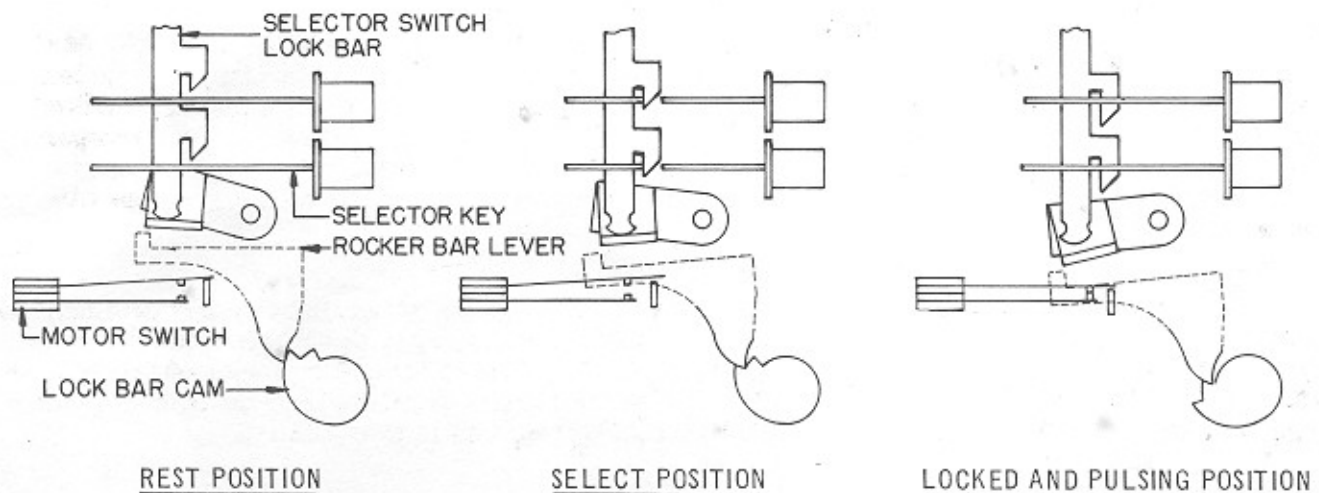

Fig. 1
There are three important positions of the cam cluster for each cycle, namely, the Rest Position, Select Position, and the Locked and Pulsing position. These positions are shown in Fig. 1.
1. Turn the gear motor manually until the rocker bar lever falls into the first notch of the cam farthest away from the contact biscuit assembly. (See "Select Position" of Fig. 1).